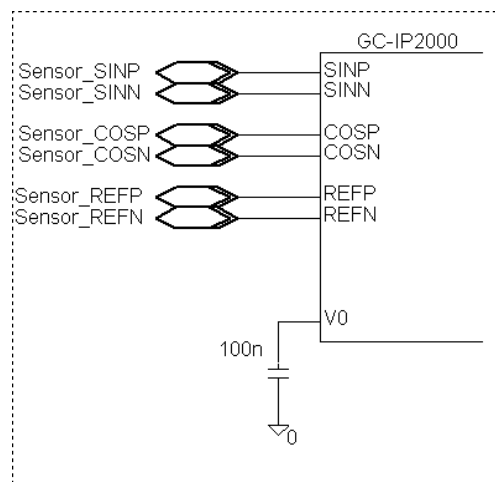

Figure 7: Differential input signals
- Sensor with differential output signals (Figure 7)